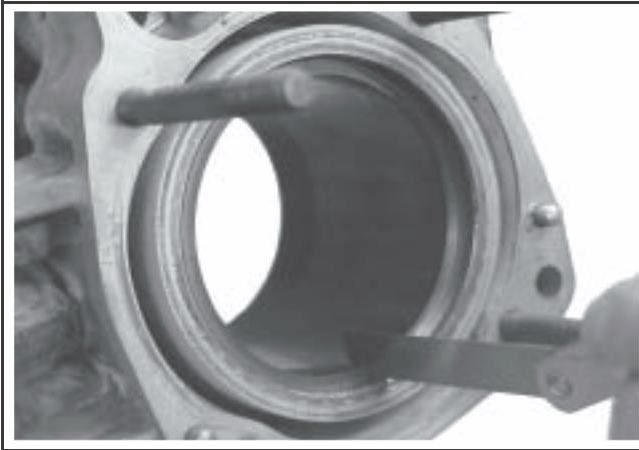

Figure 10-6. Measuring Piston Ring End Gap.
3. Before installing the rings on the piston, place the top two rings, each in turn, in its running area in the cylinder bore and check end gap using a feeler gauge (see Figure 10-6). Compare findings against specs below: